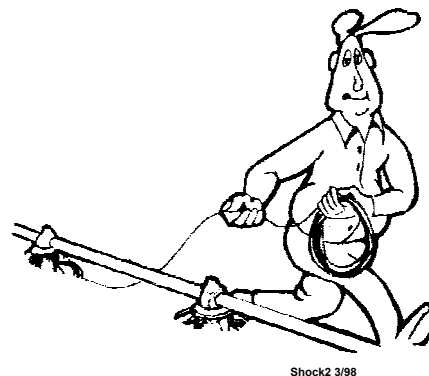

Figure 61. Unrolling the Cable
1. Unroll the bulk anti-roost cable. Note: If the cable is unrolled as shown in **Figure 61**, taking 5 loops of the coil with one hand, then changing hands to remove 5 loops as it is unrolled, it will lie flat during installation.